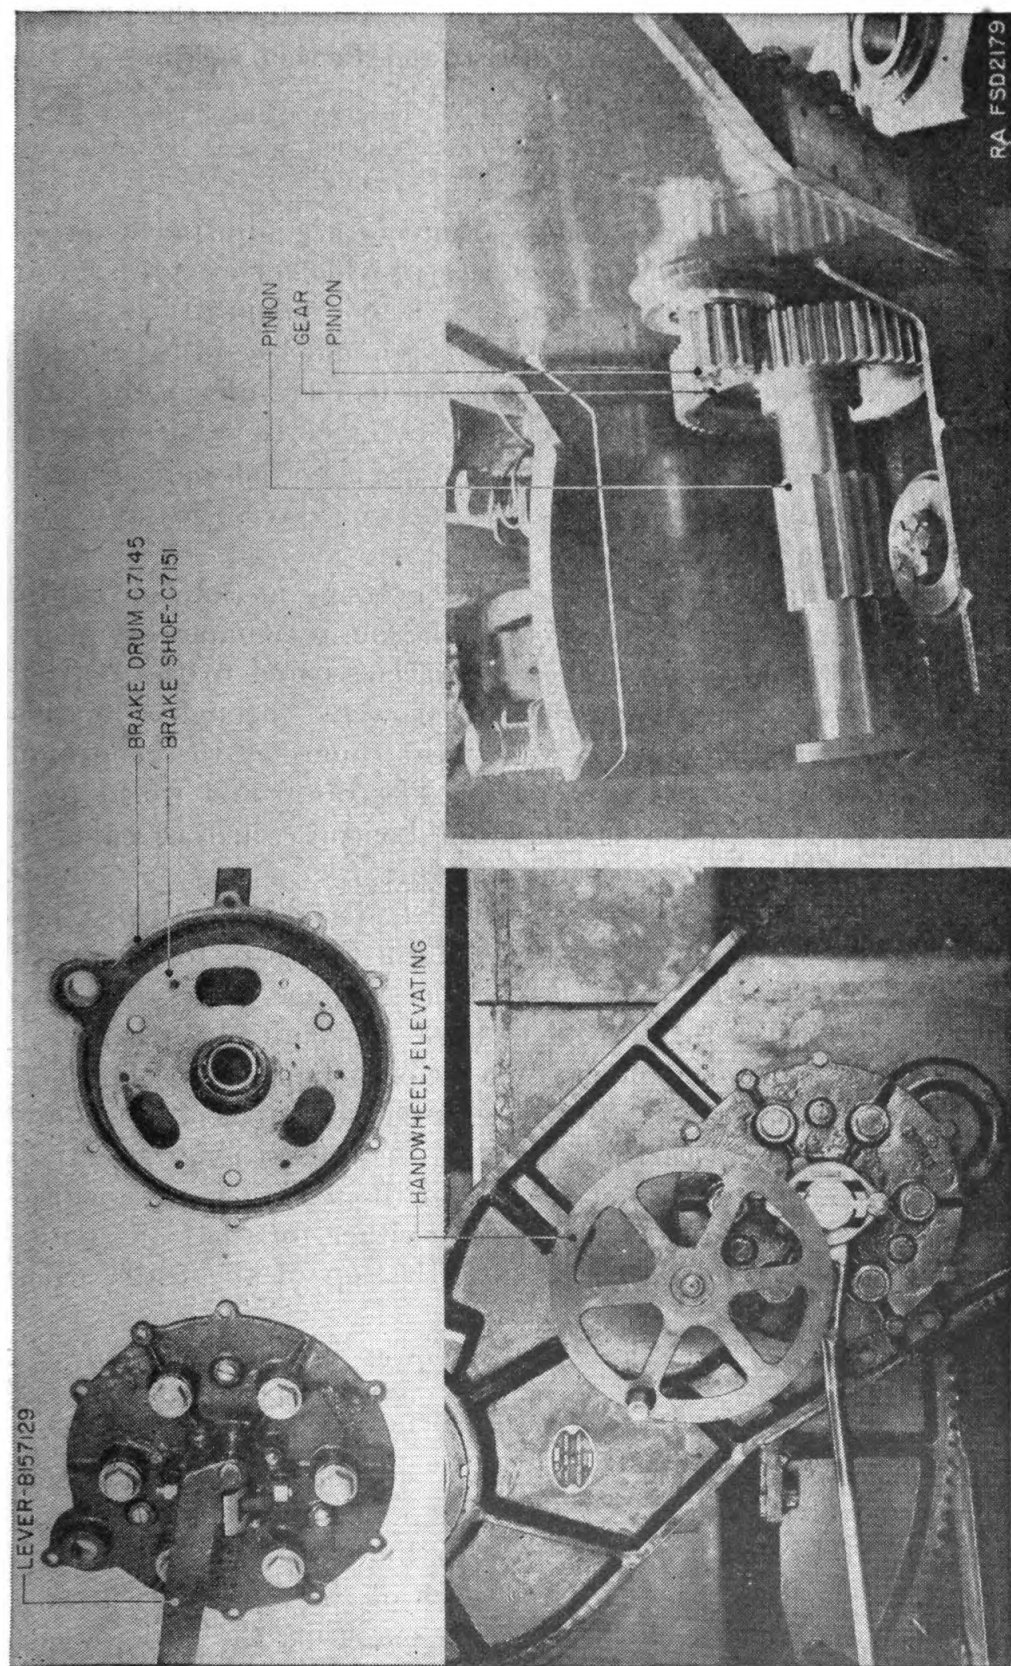

FIGURE 16.—Elevating mechanism.
b. The elevating mechanism is equipped with a brake which is engaged at all times and must be released in order to operate the elevating handwheel. The brake is released by pressing down on the brake lever. After the adjustment of gun in elevation is made, the lever is released, automatically engaging the brake through action of springs and lugs within the brake housing. When the brake lever is in its normal position, it is secured by means of a pin to prevent accidental release (fig. 16).